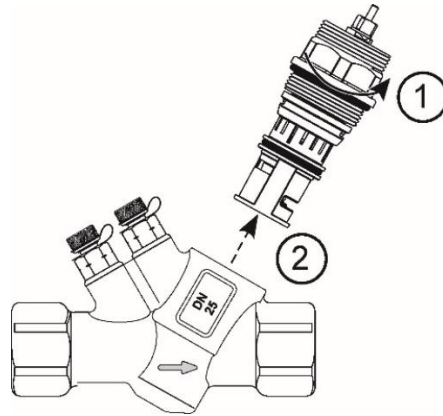

Figure 5. Removing Flow regulator from Valve body
3. Use the pipe wrench or appropriate tool to rotate Flow Regulator in counterclockwise direction to remove from the valve body. See Figure 5.